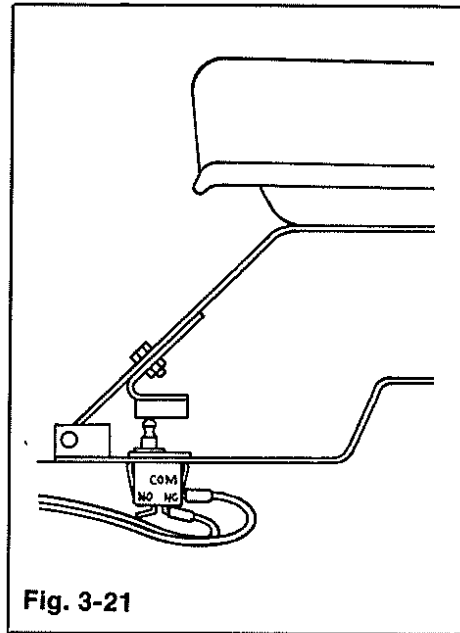

Fig. 3-21
12. Secure hydrostatic control rod (C) in place with the washer and cotter pin previously removed..
13. Reconnect and tighten the two (2) hydraulic tubes to the hydro.
17. Carefully block up rear of tractor. Place travel pedal into neutral position. Start the engine and release the brakes. If the wheels move in a forward direction, move quadrant support plate (D) toward the front of the tractor. If the wheels move in the reverse direction, move the support plate toward the rear.
- (Figs. 3-21 & 3-22)
21. Re-install the tunnel (A).